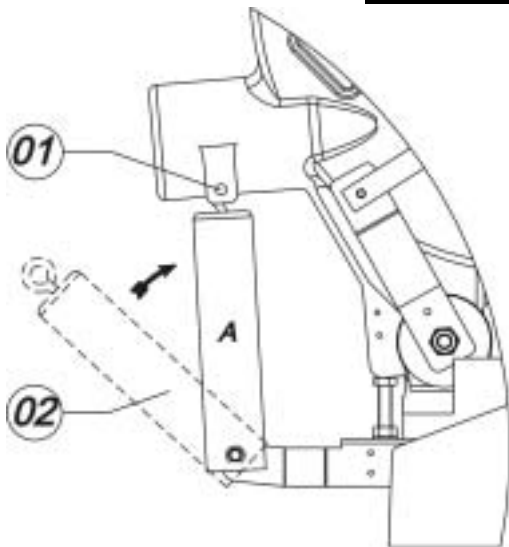

Figure 04
To mount the spring, remove the bolt fig. 04 (01) using Allen key 6mm that comes with the machine. Lift the top as far as possible, using the handle, place the spring in the direction of the arrow, until you are able to replace bolt in its original hole.